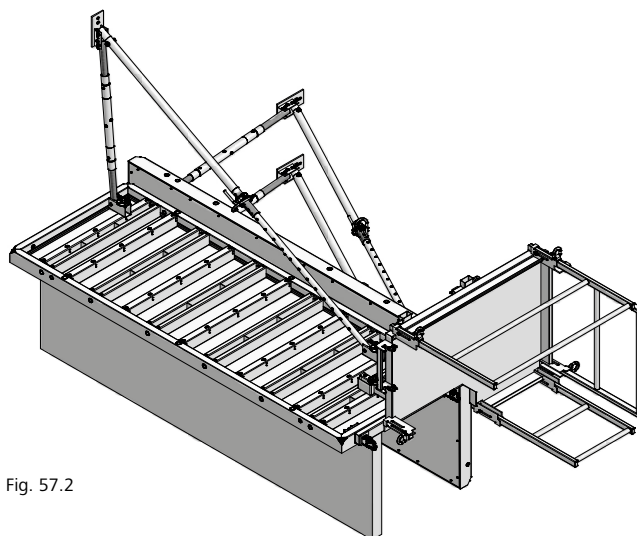

Fig. 57.2
4. Screw the hammer-head screws into the access platform and tighten the wing nuts (Fig. 57.2).